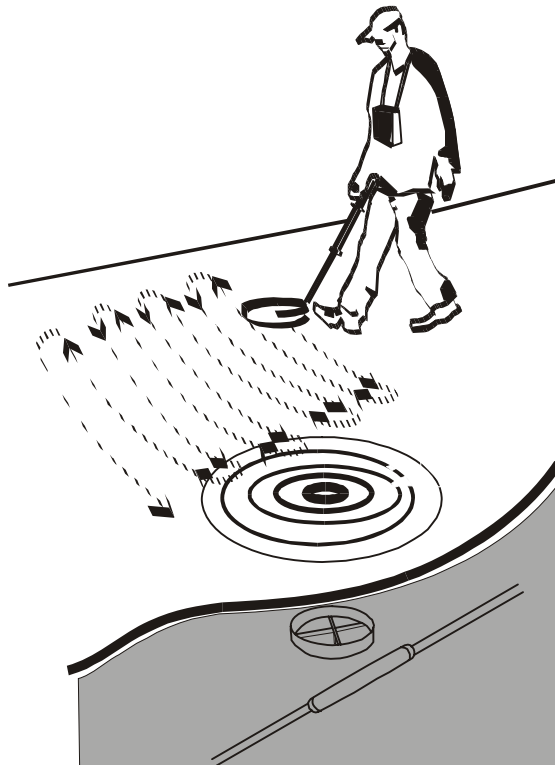

Fig. 13
3. Move with antenna horizontally above the ground in chosen direction of the walk (Fig. 13).